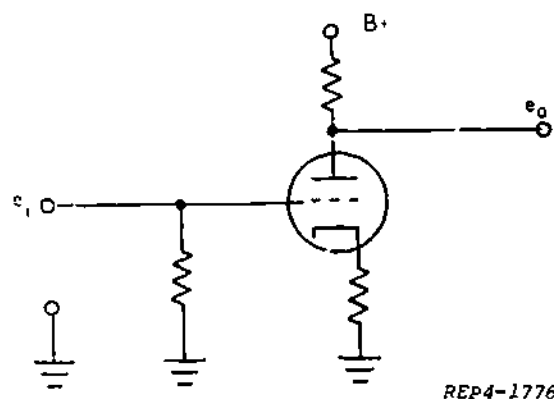

Figure 3
Use figure 3 for question 6.
6. The DC amplifier in figure 3